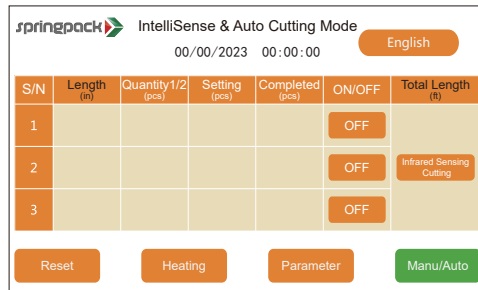
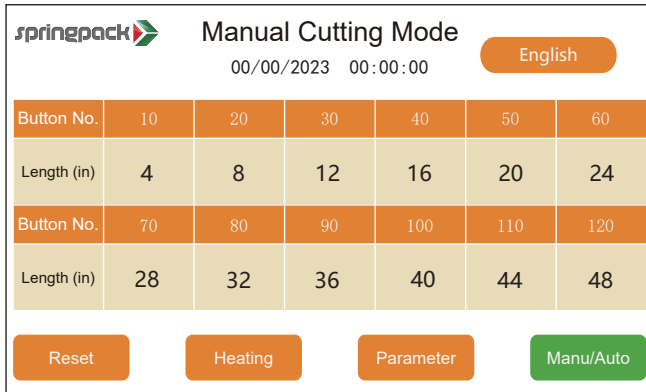
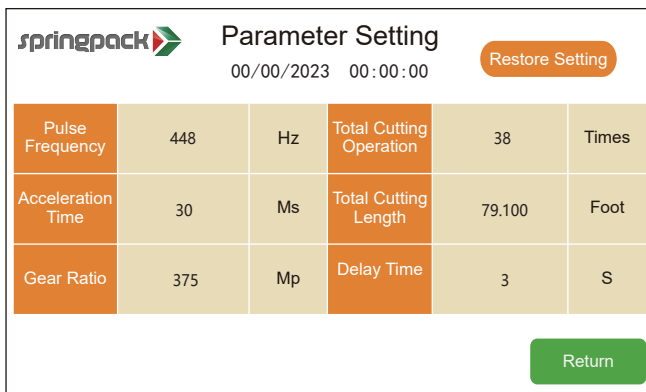
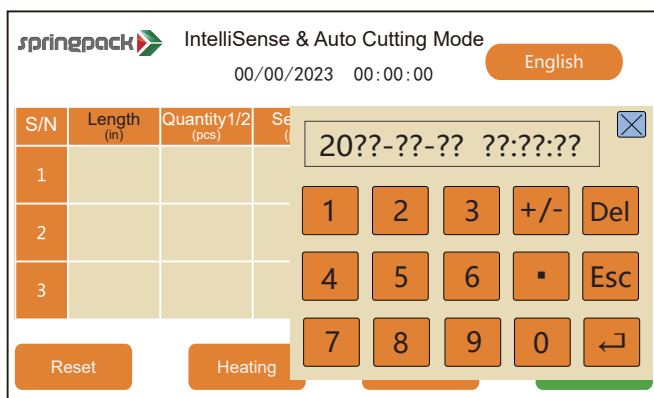

Figure 4: IntelliSense & Auto Cutting Mode
Figure 5: Manual Cutting Mode
Figure 6: Parameter Setting Interface
Figure 7: Time setting interface
When you turn on the power switch of the device, the CNC display screen will automatically enter the startup interface as shown in Figure 3, below. After the interface flashes for about 3 seconds, the device will automatically enter the "IntelliSense & Auto Cutting Mode" interface as shown in Figure 4.
3. Parameter: Press this function key to display the password input interface and enter the password (8888) to enter the "Parameter Setting" interface as shown in Figure 6.
When you enter interface 2 (Figure 4), interface 3 (Figure 5) and interface 4 (Figure 6), you will find a long string of numbers "2023/00/00 00:00:00" in "Date + Time" format below the name of the interface. Long press this area for 3~5 seconds to enter the date and time setting interface (Figure 7).